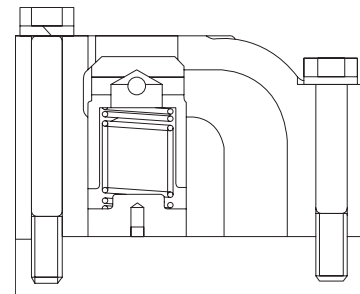
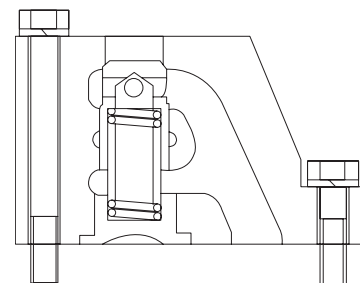

Figure 3-57
Figure 3-58
When the external force's direction is the same as the oil cylinder piston's moving direction, in order to avoid a vacuum from occurring within the oil cylinder, the oil-replenishing valves (10), (11), (15), (16) are provided (See Figure 3-52) Oil-replenishing valve's structure shown in Figure 3-57 and Figure 3-58